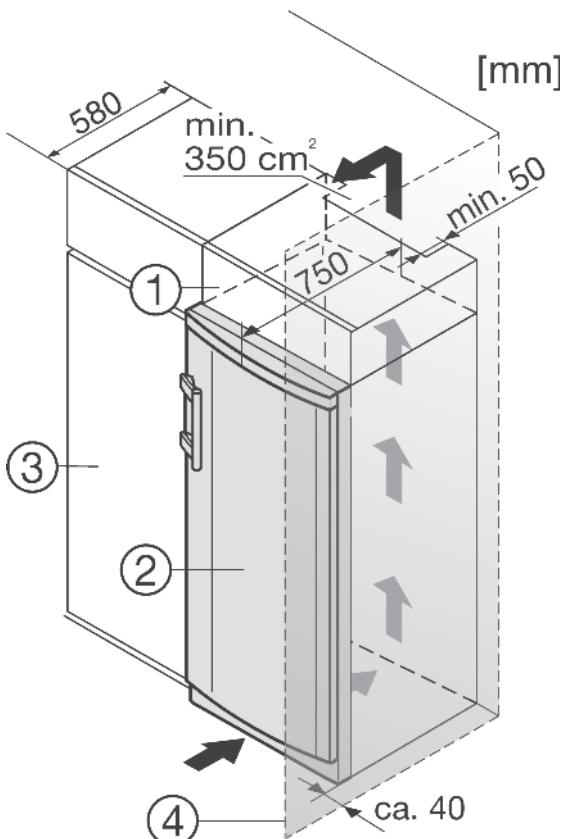

Fig. 8
- (1) Stack cabinet
- (2) Appliance
- (3) Kitchen cabinet
- (4) Wall
The appliance can be inserted into a row of kitchen units. To match the appliance Fig. 8 (2) to the height of the row of units, a suitable stack cabinet Fig. 8 (1) can be fitted above the appliance.
If the appliance is installed with the hinges next to a wall Fig. 8 (4), the distance between appliance and wall has to be at least 40 mm. This corresponds to the projection of the handle when the door is open.